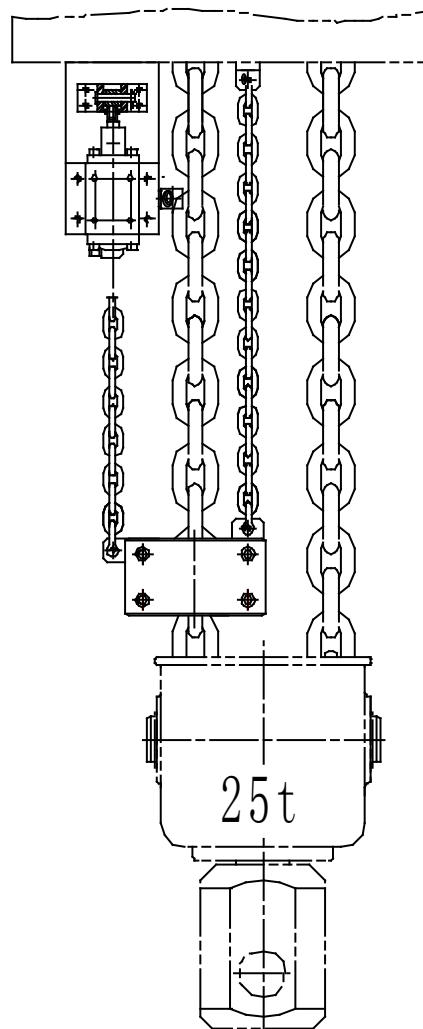

Fig.2 Height Limitation Device
3.9 Height limitation device is mounted. When the device reaches to limited height, hook holds up stop block to loosen chain, Pressing plate of reversing valve is lifted up, valve element of reversing valve is extended to cut off oil line and stop working in order to prevent gear box from damaging and chain from being blocked.See Fig.2.